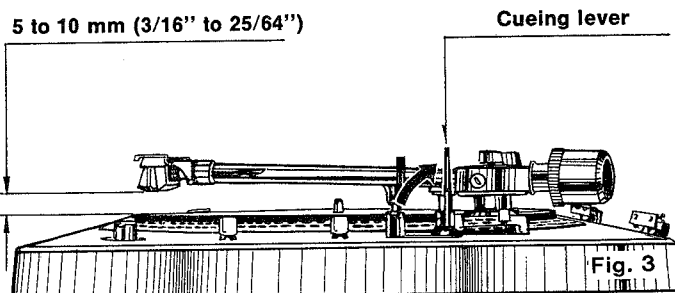

Fig. 3
③ ARM LIFT HEIGHT (CUEING LEVER) (See Figs. 3 and 4)